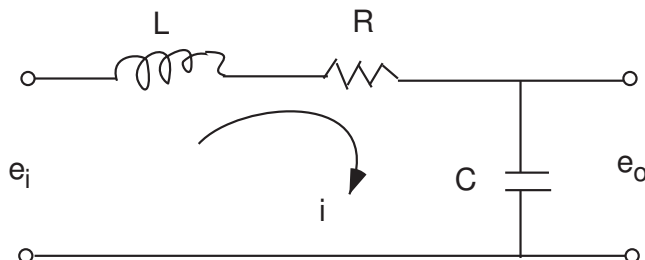

Figure 8: RLC circuit.
4. State variable models can be applied in many situations. When modelling a mechanical system the state variables (or states) are generally chosen to be the position and velocity of each mass in the system. (If the system exhibits rotary motion, the states are chosen to be the angular position and angular velocity of each inertia.) If the system to be modelled is an electric circuit, such as the RLC circuit depicted in Figure 8, then the states may be chosen as the current through each inductor and the voltage across each capacitor
- (a) Consider the RLC circuit shown in Figure 8. Kirchoff's laws state that the voltages e_o and e_i and the current I are related by the equations: